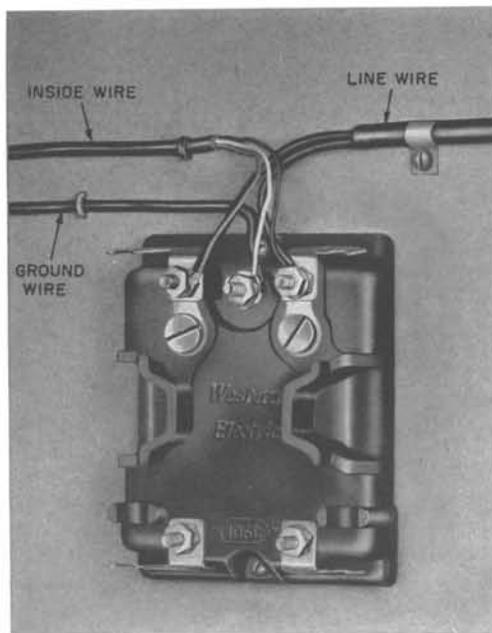

FIG. 16—ALTERNATE METHOD OF CONVERTING 106C PROTECTOR
- The 106C protector may be converted by connecting line wires directly to station side of protector if they are of sufficient length. The connectors may be omitted. No adapters are necessary. (See Fig. 16.)